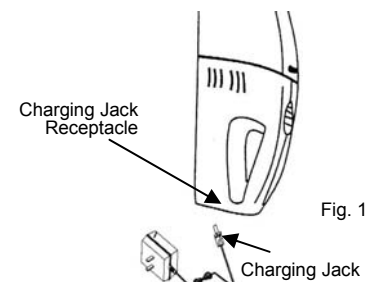

Fig. 1
2. Place the unit in the charging base. The charging indicator light will shine red to indicate that the vacuum cleaner is properly positioned in the charging base and that the unit is being charged. (See Fig. 1)